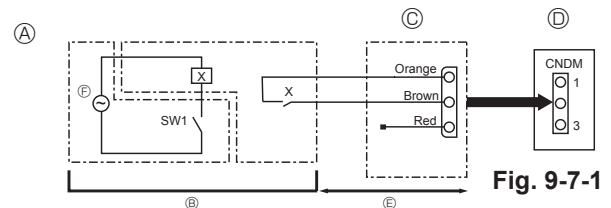

Fig. 9-7-1
9.7.1. Low noise mode (on-site modification) (Fig. 9-7-1)